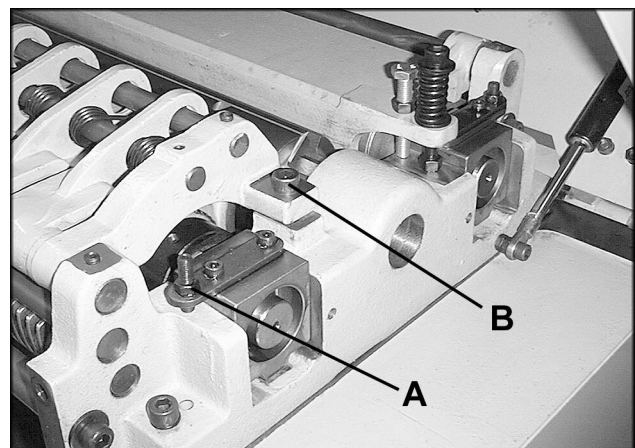

FIGURE 12
2. Move the gauge to the extreme left side of the infeed roll and check the measurement. It should be $1/16$ " below the knife measurement. If it is not, correct with the adjustment screws (A) on top the side panels, shown in Figure 12.
Using the same method as indicated for the infeed roll, adjust the chipbreaker free position using a bed and feed roll gauge and adjust the screws (B) in the pivot arm at each end if necessary. See Figure 12. It is important that each end be the same height to help avoid skewing of the material as it is fed through the machine.